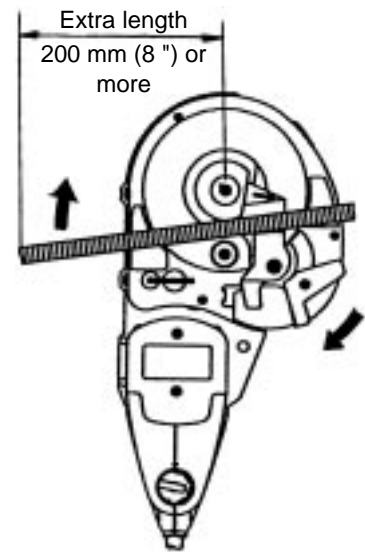

Fig. 7
(3) Reserve an extra length of at least 200 mm (8") on the bending length of the rebar to be bent (Fig. 7).